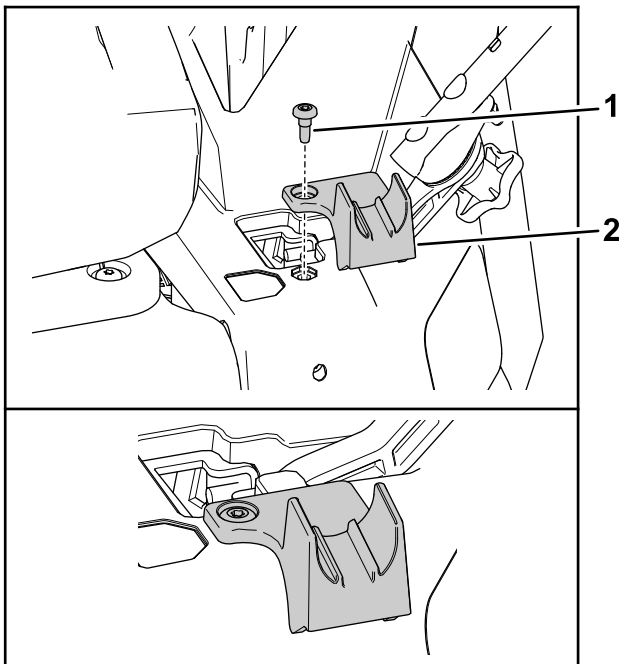

Figure 7
2. Align the handle retainer to the left pod as shown in Figure 7.